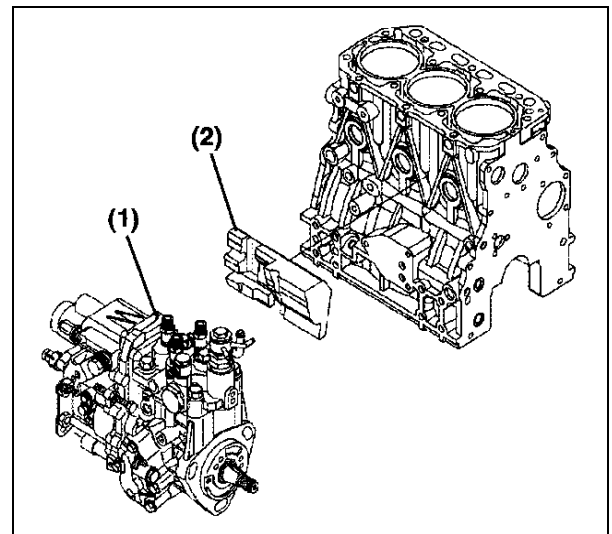
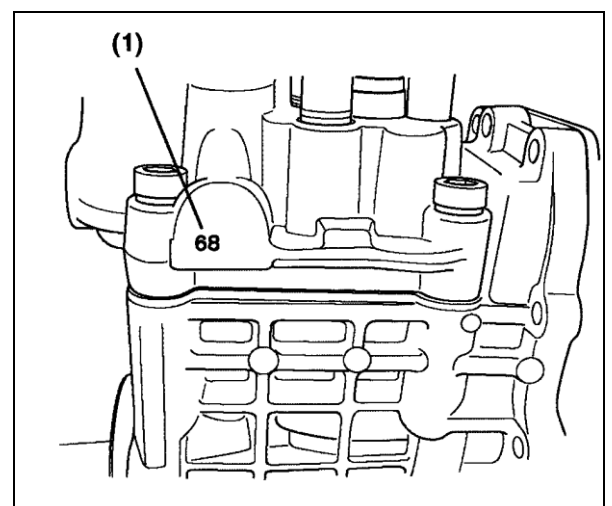

Figure 11
Figure 12
Some model engines may require the intake manifold and fuel injection pump insulator (Figure 11, (2)) be removed to access the inner fuel injection pump (Figure 11, (1)) retaining nuts.
- (23) If required, remove the intake manifold and fuel pump insulator to access the fuel injection pump mounting nuts.
- (24) Remove the fuel injection pump (Figure 11 (1)). For purposes of future injection timing purposes, record the fuel injection pump timing index number located on the boss on the engine side (back) of the of the fuel injection pump (Figure 12 (1)).
If installing a new or recalibrated fuel injection pump, locate and record the timing index number located on the pump housing boss on the engine side of the new or recalibrated fuel injection pump (Figure 12, (1)) This number will be used to calculate and adjust the final fuel injection timing.